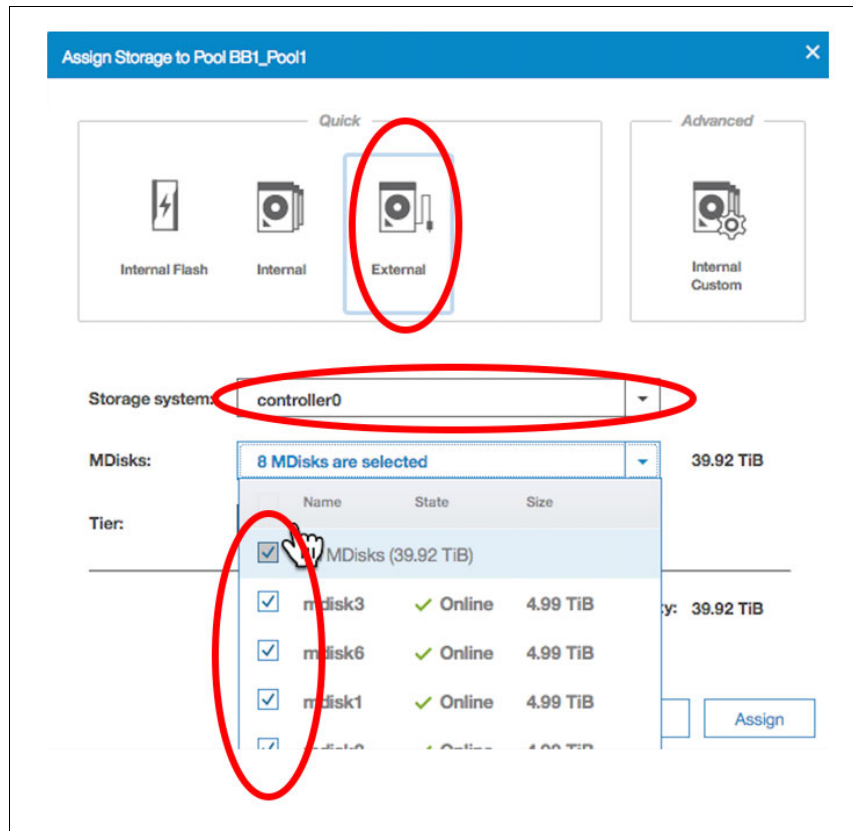

Figure 3-13 MDisk selection
6. Select the **External** option for the storage assignment and the **controller 0** in the menu shown in Figure 3-13.
7. The next menu is to select which MDisks you want the storage to reside on. Select the all checkbox to include all of the MDisks from the menu, as shown in Figure 3-13. This selects all of the 8 available MDisks.